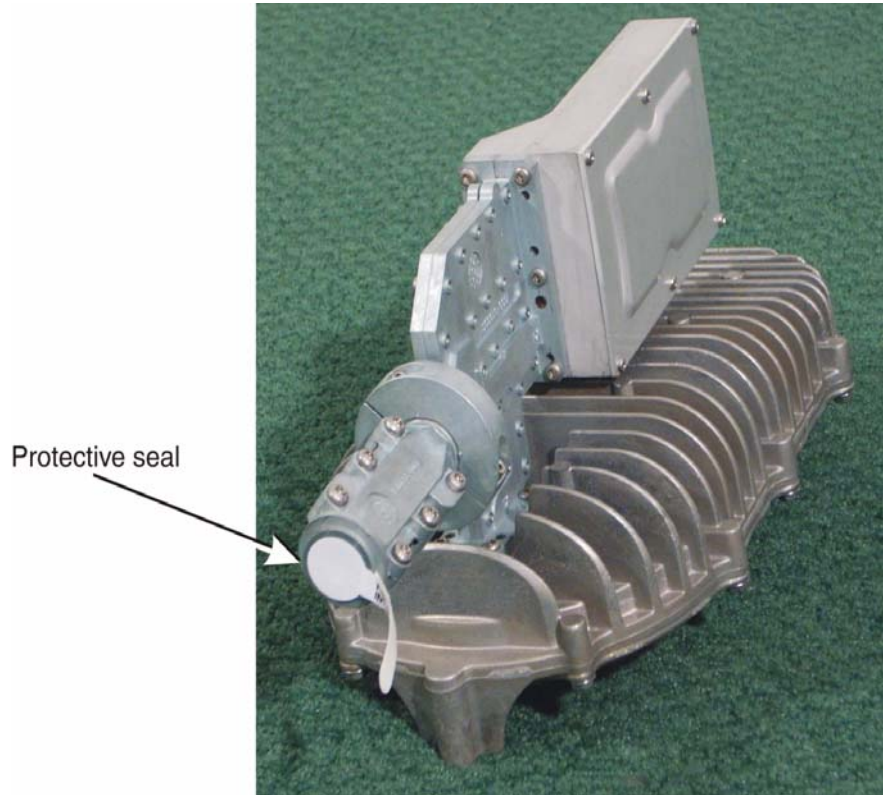

Figure 21: Remove the protective seal from the polarizer
1. Remove and discard the protective seal from the polarizer on the radio assembly (shown in Figure 21).